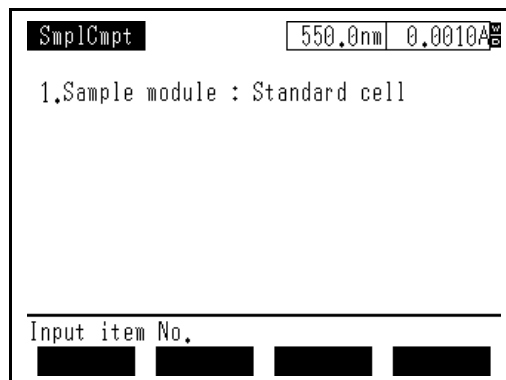

Fig. 18.1 Sample Compartment Control screen (When standard cell is selected)
- 1 Press the **F2** [SmpnCmpt] key to display the Sample Compartment Control screen (Fig. 18.1).